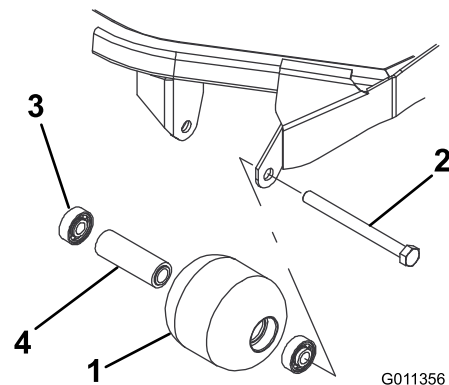

Figure 103
1. Remove the roller-mounting bolt (Figure 103).
4. Inspect the roller housing, bearings, and bearing spacer for damage (Figure 103). Replace any damaged components and assemble them.
1. Press the first bearing into the roller housing (Figure 103). Press on the outer race only or equally on the inner and outer race.
2. Insert the spacer (Figure 103).
3. Press the second bearing into the roller housing (Figure 103). Pressing equally on the inner and outer race until the inner race contacts the spacer.